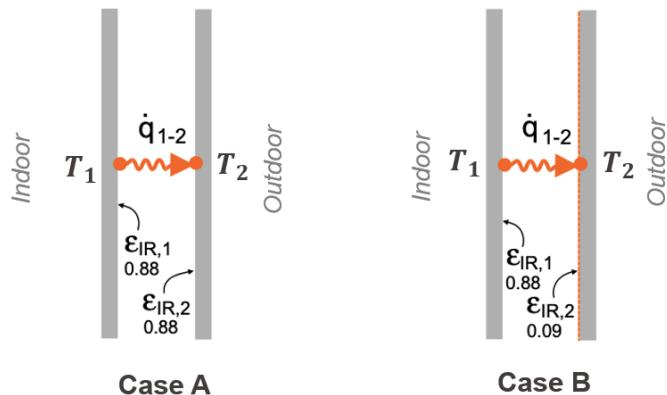

Figure 2: Illustration of cases (A) and (B)
Consider radiation heat transfer between two glasses in a double-pane window as illustrated in Fig. 2. The exterior side of the 1st glass has the temperature of $t_1 = 19^\circ\text{C}$. The interior side of the 2nd glass has a temperature of $t_2 = -8^\circ\text{C}$. In the case (A), both sides have the same emissivity value of $\varepsilon_1 = \varepsilon_2 = 0.88$. In case (B), the second glass is treated with a low emissivity coating with the emissivity of $\varepsilon_2 = 0.09$. Compare the radiative performance of both cases by determining the radiative thermal resistance $R_{rad,1-2}$ and radiant heat flux between the glass panes \dot{q}_{1-2} .